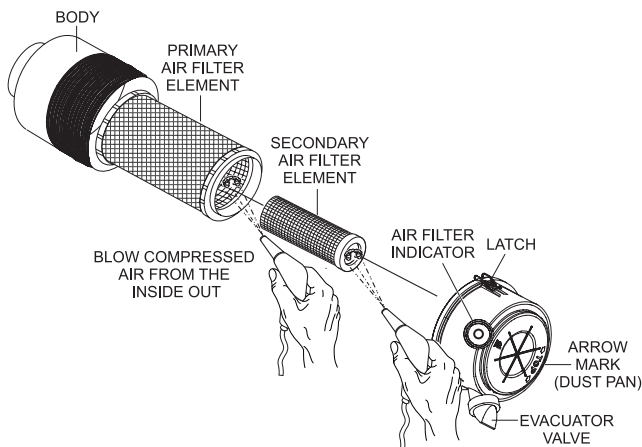

Figure 61. Engine Air Cleaner
The air cleaner (Figure 61) provided with this Volvo diesel engine is equipped with a replaceable, high-density, paper air filter element. The air cleaner is also equipped with an inner (secondary) element that is used as a backup filter should the primary element become damaged. Check the air cleaner daily or before starting the engine. Replace the air cleaner as needed.
1. Release the latches that secure the cover to the air cleaner body (Figure 61).
2. Remove the **air cleaner cover** (Figure 61) and set it aside.
3. Remove both the primary and secondary air cleaner elements (Figure 61).
5. To clean the **primary element** (paper air filter) as shown in Figure 61, tap the filter element several times on a hard surface to remove dirt, or blow compressed air, not to exceed 30 psi (207 kPa, 2.1 kgf/cm²), through the filter element from the inside out.
8. Clean the inside of the **air cleaner body** (Figure 61).